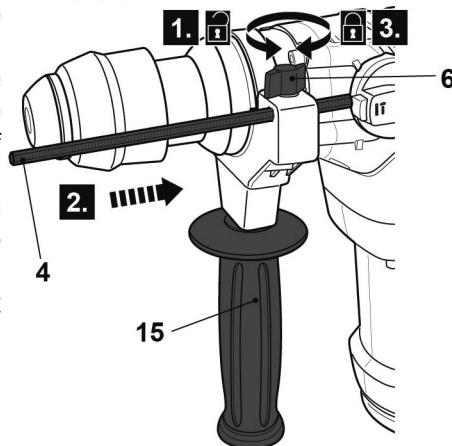

Fig. 4
- > Turn the wing nut (6) anticlockwise until the depth stop (4) can be inserted.
- > Insert the depth stop (4) through the hole as indicated (Fig. 4). Adjust the auxiliary handle (15) to other position if necessary.
- > Align the tip of the depth stop (4) with the drill tip. Now pull the depth stop back by the required drilling depth.
- > Turn the wing nut (6) clockwise to fix the depth stop in position.